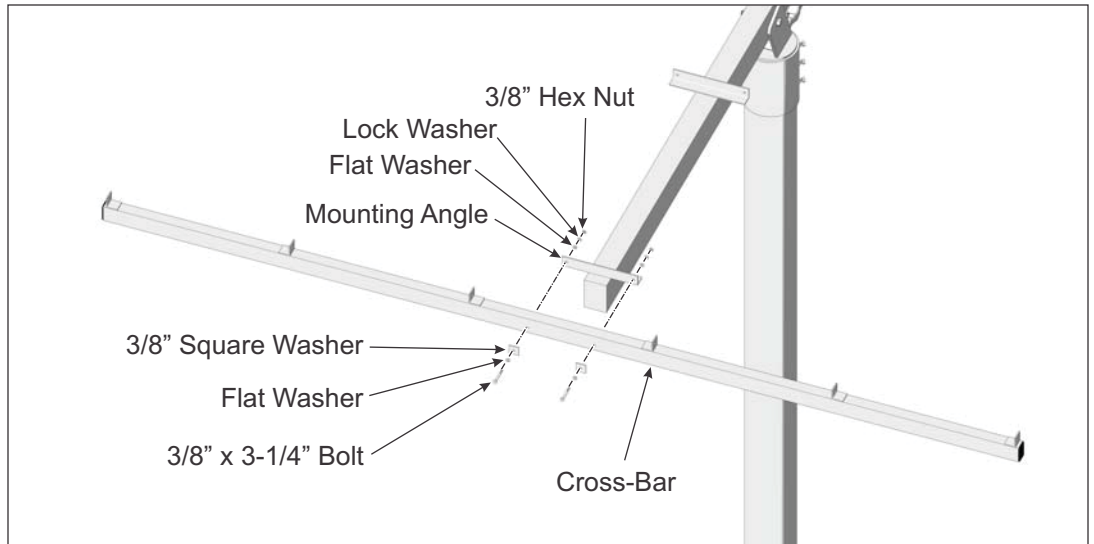

Figure 3-2: Installing Cross-Bars to Strongback
- A. Starting at the south location, position the Cross-Bar on the outside of the mounting angle of the Strongback. Align the mounting holes and secure using 3/8” flat and square washers along with the 3/8” x 3-1/4” bolts and lock washer placing the square flat washer against the Cross-Bar. Tighten hardware and **Torque to 30-32 ft.-lbs.** (See Figure 3-2)